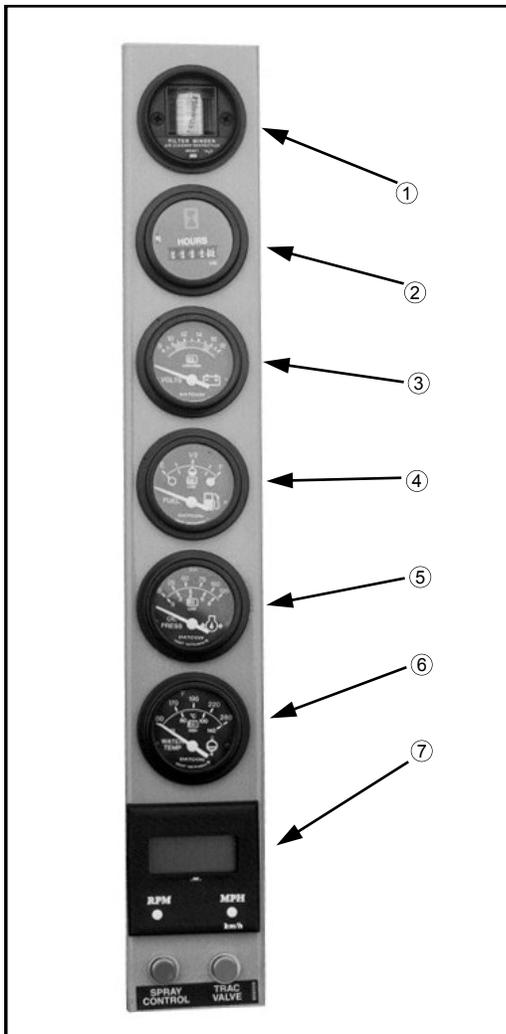

FIG 5.74
Filter Minder[®] - (fig. 5.74, item 1) The Filter Minder[®] is an engine air filter restriction monitoring device. For more information, see page 80.
Hour Meter - (fig. 5.74, item 2) The hour meter progressively records elapsed time of sprayer operation. It is useful for determining service intervals.
Volt Meter - (fig. 5.74, item 3) The volt meter measures voltage from the alternator on the diesel engine. A “RED” indicator light will alert the operator if the system is operating either too low or too high.
Fuel Gauge - (fig. 5.74, item 4) The fuel gauge measures the amount of fuel in either fuel tank, depending on the tank selected with the fuel switch. A “YELLOW” indicator light alerts operator of low level operation.
Engine Oil Pressure - (fig. 5.74, item 5) The oil pressure gauge monitors pressure of the engine lubricating system. A “RED” indicator light alerts the operator of low level operation.
Water Temperature - (fig. 5.74, item 6) The water temperature gauge monitors the engine cooling system. A “RED” indicator light alerts the operator of unsafe operating temperatures.
Speedometer/Tachometer - (fig. 5.74, item 7) Unit will display either engine RPM or speed of travel depending on operator’s selection. See next page for more information on the speedometer/tachometer.